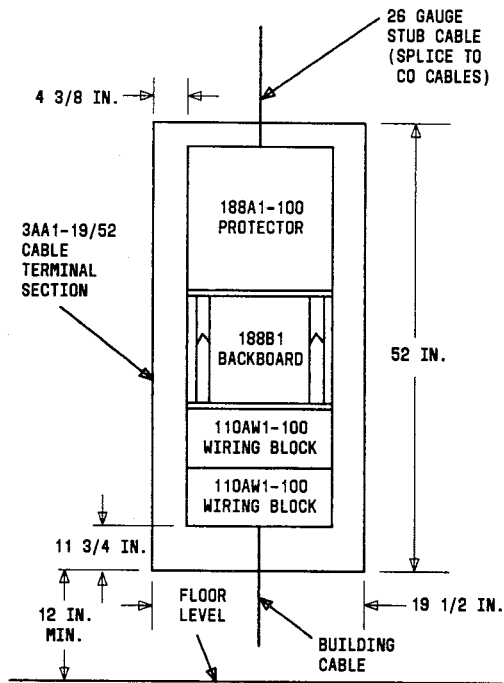

Fig. 4—100-Pair Entrance Cable—200-Pair Building Cable—Mechanical Protection Required
**3.06** Install the 188-type protector(s), 110-type wiring blocks, and 188B1 backboard as shown in Fig. 4 through 9. The 188B1 backboard shall be placed between the 188-type protector and the 110-type blocks in each vertical column. The 110-type wiring blocks should be loosely mounted to facilitate routing of the building cable.